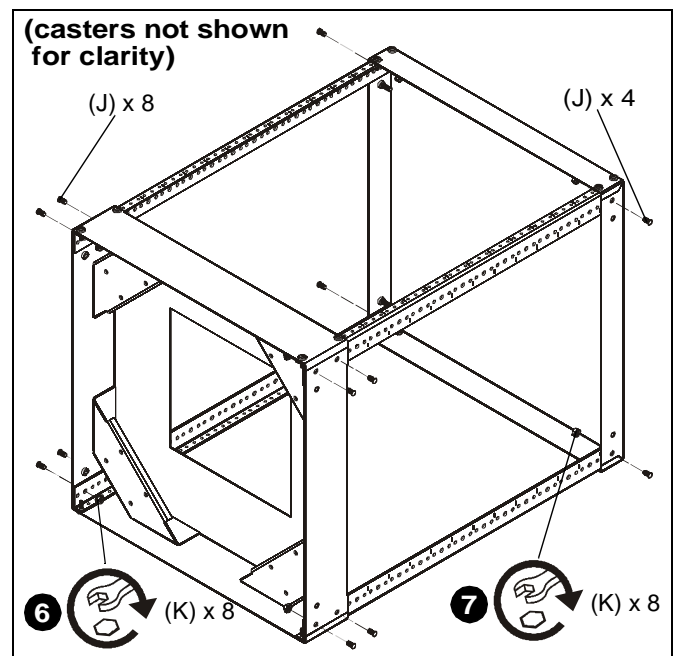

Figure 3
6. Use eight 1/4-20 x 1/2" studs (J) and eight 1/4-20 lock nut washers (K) to fully secure rack base (B) to rack rails (E). (See Figure 3)
7. Use four 1/4-20 x 1/2" studs (J) and four 1/4-20 lock nut washers (K) to fully secure rack top (A) to rack rails (E). (See Figure 3)